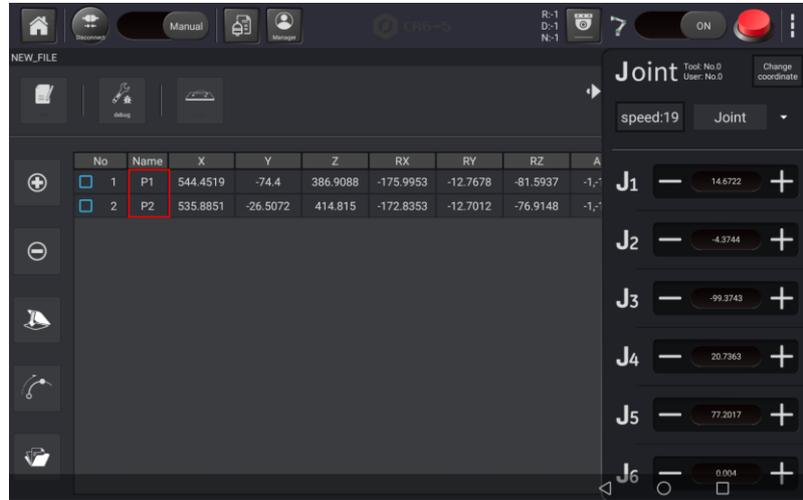

Figure 5.44 Save teaching points
**Step 2** Jog robot to a point and click to add the point on the **point** page. The saved points are shown in Figure 5.44.